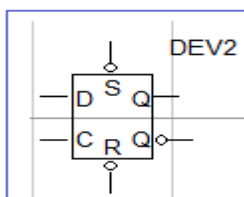

Figure 10-20
- Move the mouse pointer to the *Design Window* and place it where you want it by clicking. See figure 10-20 given below: